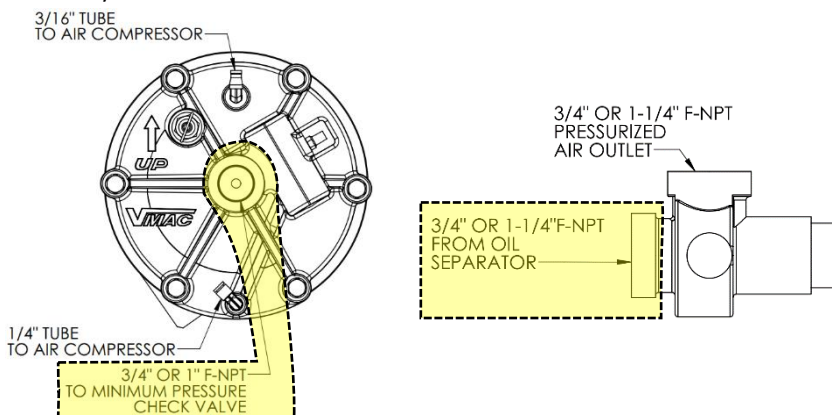

Figure 14 – Oil Separator Air Line Connection
- Connect the air hose from the center outlet side of the oil separator tank to the bottom female fitting of the minimum pressure check valve. Either a NPT bushing may be used or a hose with fittings of choice (Figure 14). Use a second wrench to support the fitting on the component and prevent it from spinning when tightening a hose if used. The recommended hose size is #12 (3/4") hose for VR90 and lower air flow systems and #16 (1") hose for VR130 and higher air flow systems.